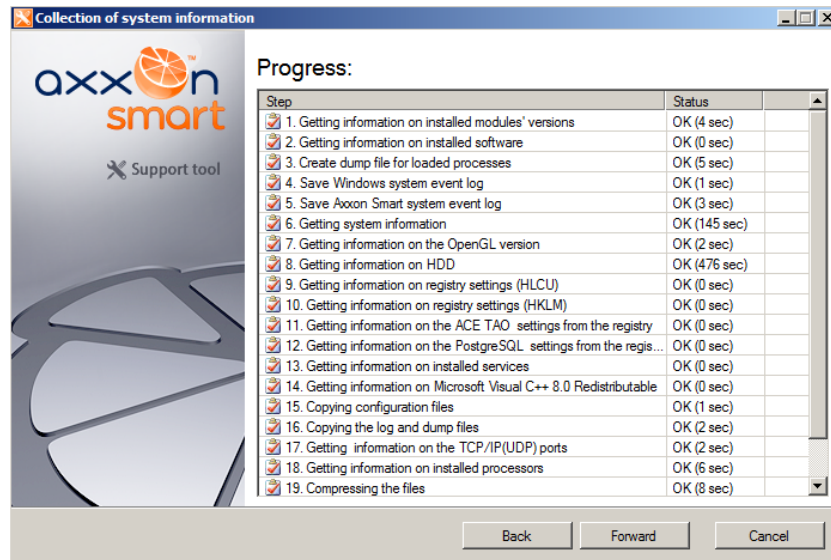

Fig. 8.1—7 Completion of information collection
5. A window containing information about the generated archive **support\_[date]\_[time].7z** will then appear. You can access the folder containing this archive by clicking the **Open directory with file** button (Fig. 8.1—8).